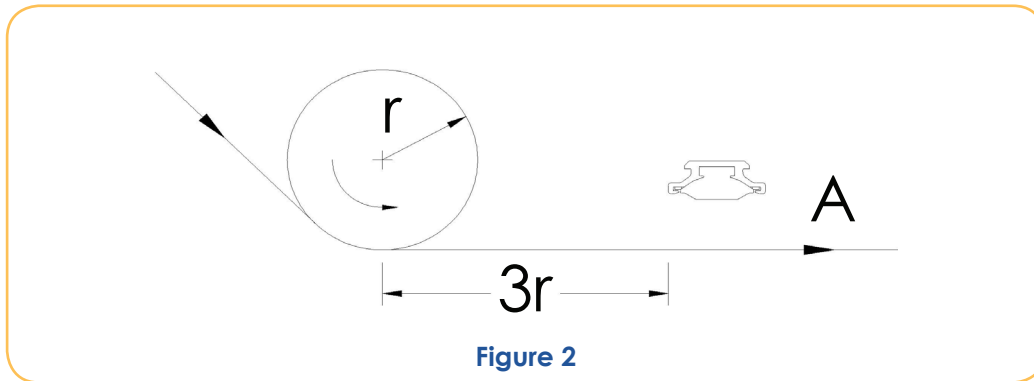

Figure 2
3. When trying to achieve the lowest possible level of static charge at a particular position on the web – for example, point A in Figure 2 – then the distance between the ionizer and the roller should be slightly greater than three times the radius of the roller.